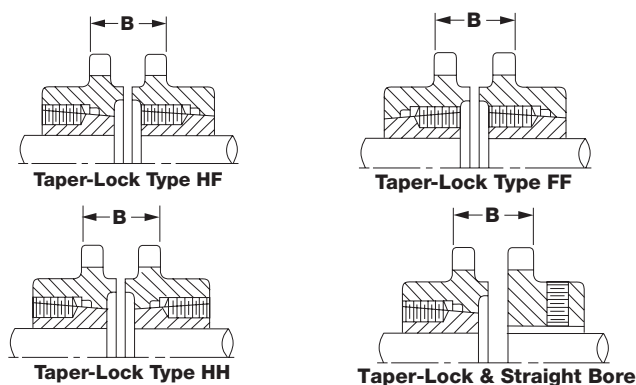

Figure 1 - "B" Dimension
4. Shaft separation for the chain coupling should be set per appropriate "B" dimension in Table 2. "B" dimension is illustrated in Figure 1.